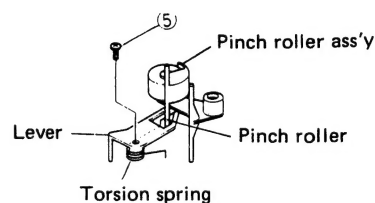

Fig. 8
- 1) Perform steps 1) through 3) above. (Fig. 8)
- 2) Take out screw (5) retaining the guide lever and remove this from the pinch roller guide. (Fig. 8)